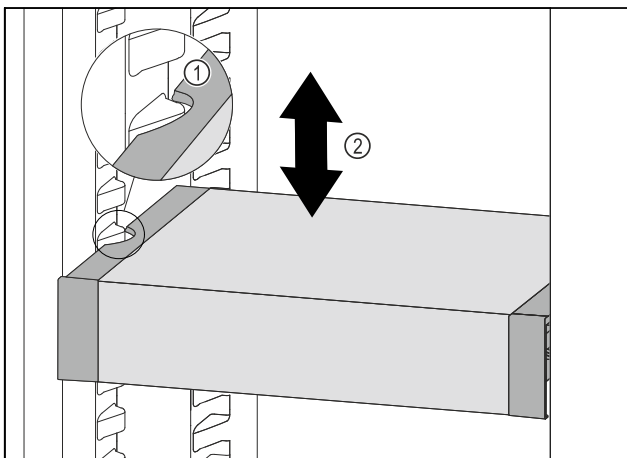

Fig. 63
- ▶ Pull VarioSafe forwards until the recesses in the side of the VarioSafe are at the level of the support rib in the refrigerator compartment. *Fig. 63 (1)*
- ▶ Move VarioSafe up or down in the refrigerator compartment until the desired height is reached. *Fig. 63 (2)*